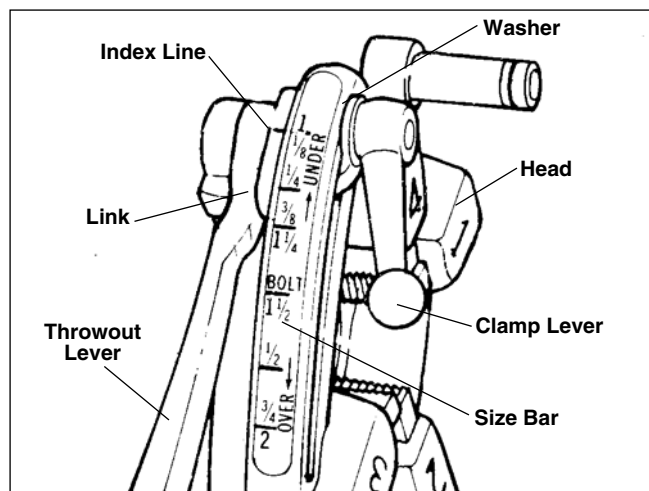

Figure 12 – Universal Quick-Opening Die Head
5. Quick-Opening 811A Die Head (*Figure 12*) – Rotate throwout lever to the CLOSED position.
10. Quick-Opening 811A Die Head (*Figure 12*) – When thread is completed, raise throwout lever to open position, retracting dies.
**NOTE!** The No. 811A Universal Die Head (Figure 12) for right hand threads requires four sets of dies for thread pipe ranging from  $\frac{1}{8}$ " through 2". One set of dies is required for each of the following pipe